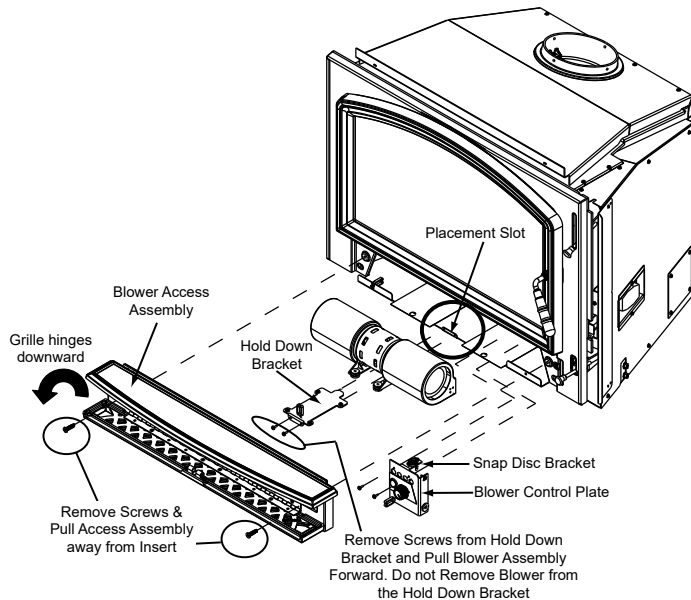

Figure 24.1
1. The grille on the blower access assembly is hinged. Swing the grille downward to expose the 2 screws (**Figure 24.1**).